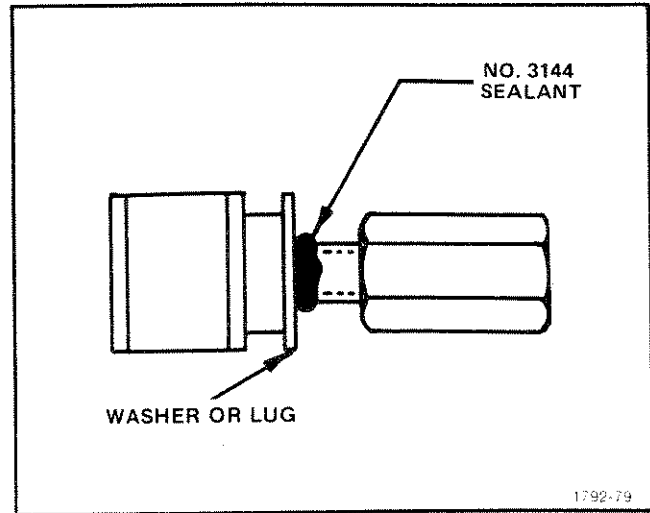

Fig. 5-26. Application of sealant to the 0-dB SET control bushing.
**22. Install the VAR control and the 0-dB SET control (see Figs. 5-26 and 5-27)**
1. Partially unscrew Hex spacer nut and form a bead of No. 3144 sealant around the bushing threads as shown in Fig. 5-26.